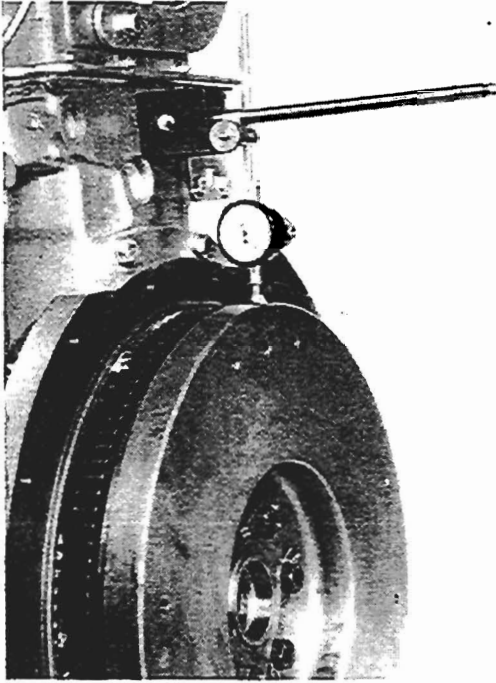

Fig. Q1
7. Check the flywheel run-out with a dial test indicator (see fig. Q1). This must not be more than 0,30 mm (0.012 in) total indicator reading.